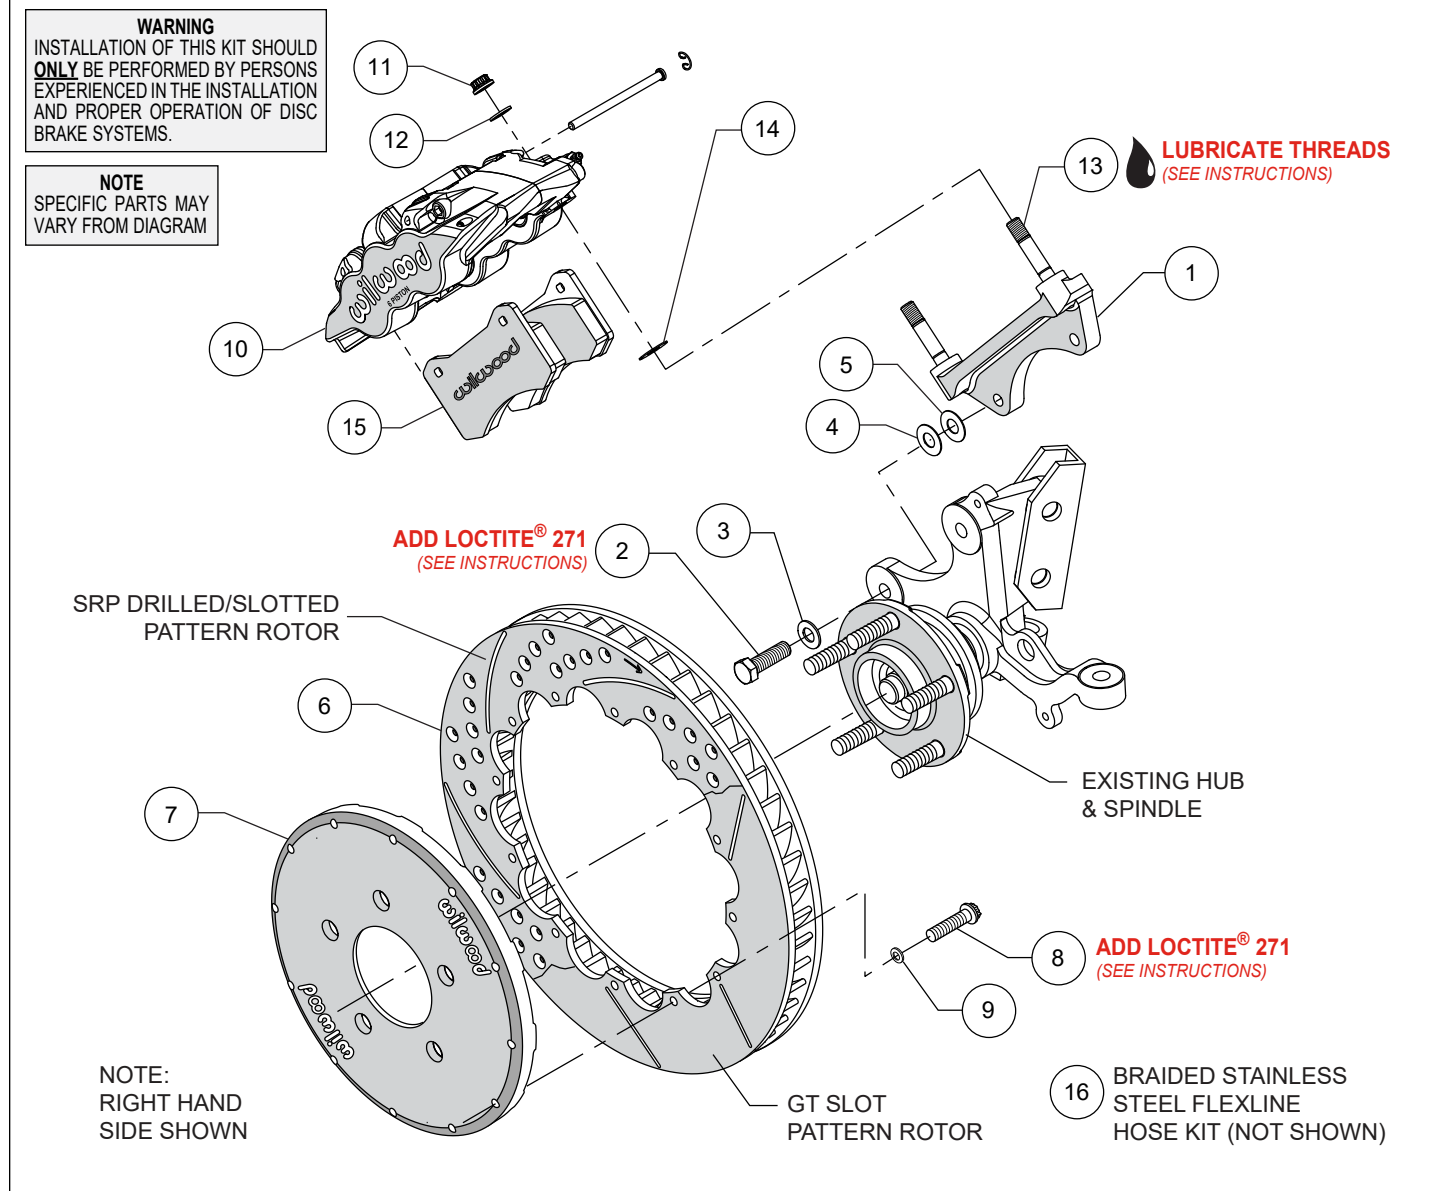
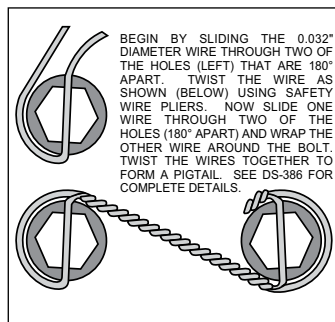

Figure 1. Typical Installation Configuration
Figure 3. Safety Wire Diagram
NOTE: Numbers in parenthesis refer to the parts list and Figure 1 on the preceding pages.
- The caliper mount bracket (1) should initially be installed with clean, dry threads on the mounting bolts. Orient the bracket, as shown in Figure 1 and Photo 1, and install using bolts (2) and washers (3). Initially place one .033" thick shim (4) on each bolt between the bracket and upright, Figure 1. Temporarily tighten the mounting bolts. **NOTE:** *The bracket must fit squarely against the mount bosses on the upright. Inspect for interference from casting irregularities, machining ridges, burrs, etc.* Later, after the caliper alignment has been checked, the mount bolts will be secured using red *Loctite*® 271.
- Orient the rotor (6) and the hat (7) as shown in Figure 1 and Photo 2. Attach rotor to hat using bolts (8) and washers (9). Apply red *Loctite*® 271 to the bolt threads and torque to 155 in-lb using a criss-cross pattern. For an added measure of security, the bolts may be safety wired using standard 0.032 inch diameter stainless steel safety wire as shown in Figure 3. Refer to Wilwood's data sheet DS-386 (available at www.wilwood.com/Pdf/DataSheets/ds386.pdf) for complete safety wire installation instructions.
- NOTE:** *This kit contains distinct right and left hand calipers that must be mounted in a specific direction, as described below.* Lubricate the caliper mounting studs (13) with lightweight oil. Initially place one .030" thick shim (14) on each stud between the caliper and the bracket, as shown in Figure 1 and Photo 4. Mount the caliper (10) onto the bracket (1) using lock nuts (11) and washers (12), Figure 1. Temporarily tighten the lock nuts. Ensure that the caliper is mounted so the largest pistons are at the rotor exit end of the caliper, in relation to the direction of the rotor. View the rotor through the top opening of the caliper. The rotor should be centered in the caliper, Photo 5. If not, adjust by adding or subtracting shims (4 and/or 5) between the bracket and the upright. Always use the same amount of shims on each of the two mounting bolts. Once the caliper alignment is correct, remove the bracket mounting bolts one at a time, apply red *Loctite*® 271 to the threads, and torque to 60 ft-lbs.
- Remove the caliper (10), then remove the two pad retaining pins from the caliper by carefully popping out the pin retaining clips and sliding out the pins. Insert the brake pads (15) into the caliper from the bottom, Figure 1 and Photo 6. With the friction material facing the rotor, secure the brake pads in place with the pad retaining pins and clips, Photo 7. Reinstall the caliper onto the caliper mounting bracket and temporarily tighten the lock nuts (11).